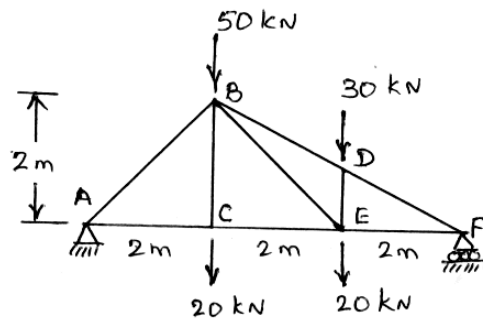

Fig. Q.12(a)
12. (a) Analyze the simply supported truss shown in Fig. Q.12(a) by method of joints and tabulate the member forces.